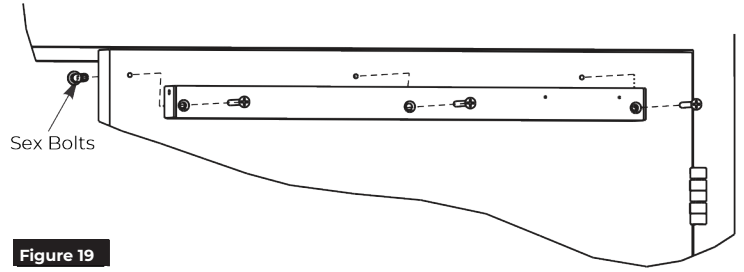

Figure 19
1. Using previously prepared holes in door, install three (3) 1/4-20 x 1-5/8" screws through track and into sex bolts. (Figure 19)